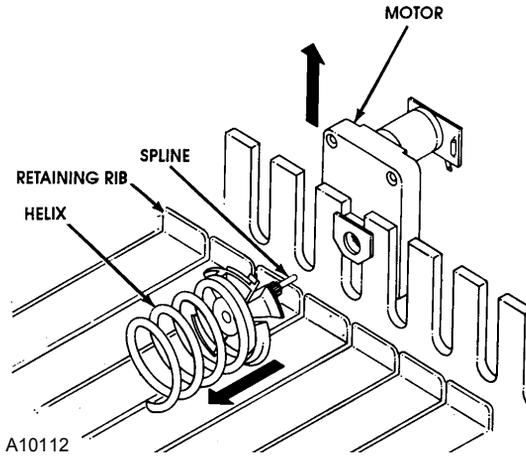

Figure 11. Auger Timing
2. Raise the motor slightly and pull forward on the auger until it separates from the motor. See Figure 11.